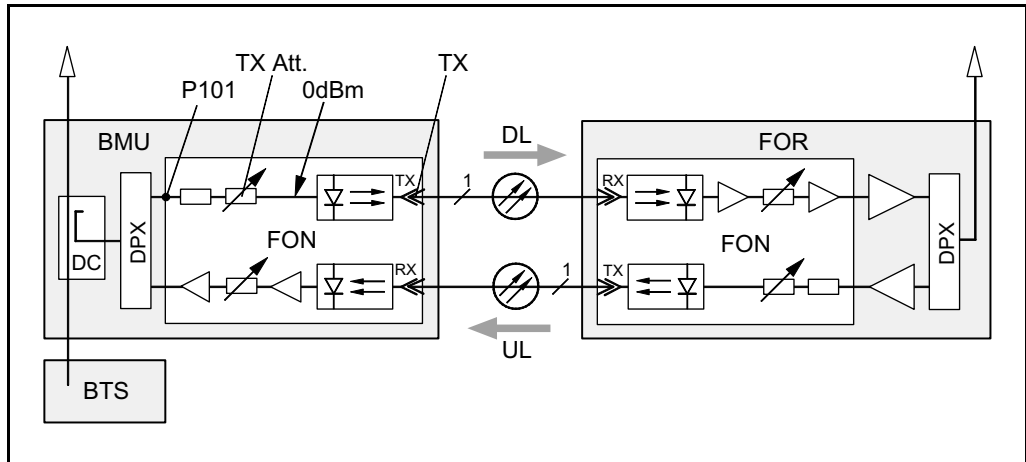

Figure 6-1. Master unit downlink path
Figure 6-1 shows a fiber optic system in a BMU and a FOR. These units are also used as examples in the instruction.
2. Measure the downlink input RF signal power (from the BTS) at the FOM board connector 'P101' in Figure 6-1 (or at the OCM/BMU 19" rack) using a spectrum analyzer.